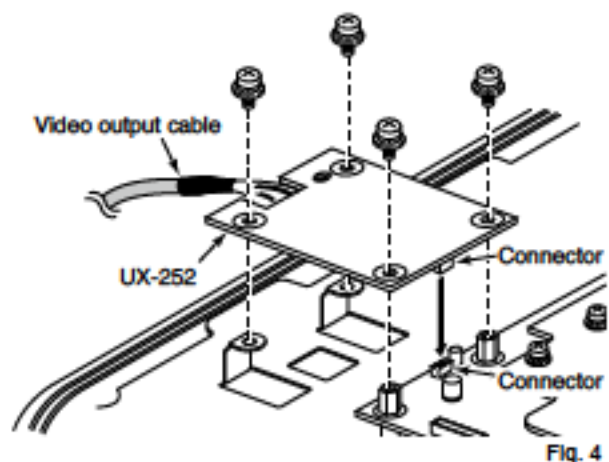

Fig. 4
6. Install the UX-252 on the display's main board using the four screws supplied with the UX-252. (Fig. 4)